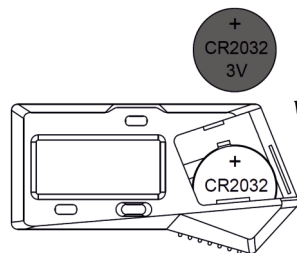

Fig. 2
- » Insert the CR2032 battery so that the positive side (+) faces outward (Fig. 2).
- » For a disc-shaped contact point measuring the depth of grooves inside a hole, gently pull the millimeter scale so the inner measuring surface of the contact point rests on a flat surface. Set the zero value by holding the “SET” button. Then measure depths A1 and A2 (Fig. 2). The thickness of the disc-shaped contact point is x , and the value of A2 equals the reading plus x .